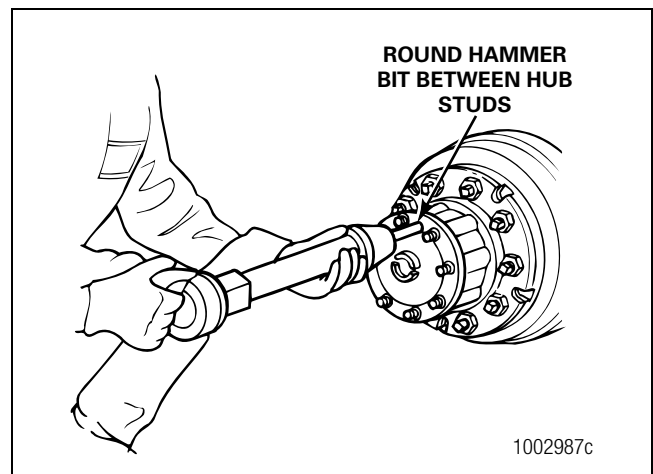

Figure 3.1
2. Place the round hammer bit against the axle shaft or flange between the hub studs. Operate the air hammer at alternate locations between the studs to loosen the tapered dowels and axle shaft from the hub. Figure 3.1.
4. Remove the tapered dowels and separate the axle shaft from the main axle hub assembly. Figure 3.1.